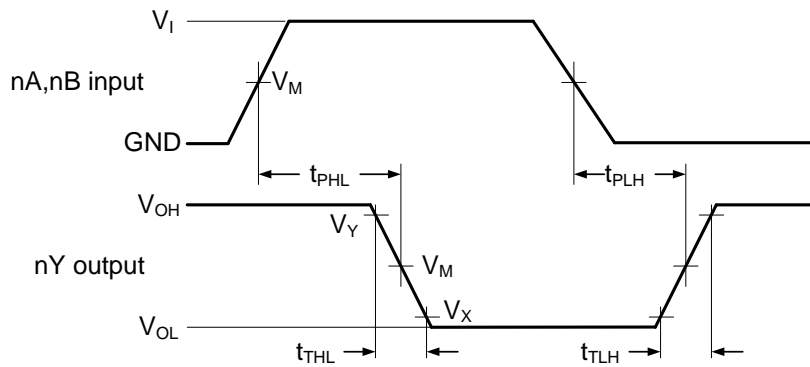

Figure 8-5 Input to output propagation delays
| $t_t$             | Transition time                | See Figure 8-5 (2) | $V_{CC}=2.0\text{V}$ | -    | -    | 110  | ns |
| $t_{pd}$          | nA, nB to nY propagation delay | See Figure 8-5 (1) | $V_{CC}=4.5\text{V}$ | -    | -    | 50   | ns |
| $t_t$             | Transition time                | See Figure 8-5 (2) | $V_{CC}=4.5\text{V}$ | -    | -    | 22   | ns |